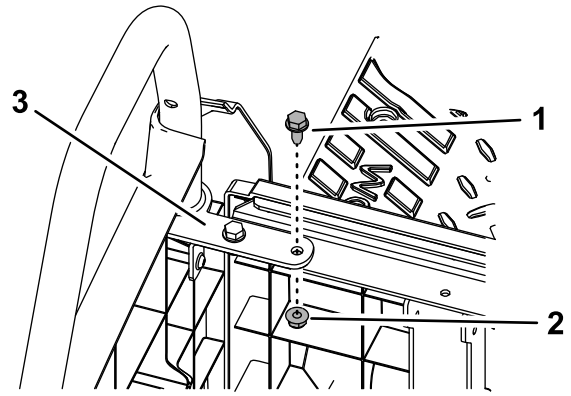

Figure 3
3. Remove the inner bolt (5/16 x 3/4 inch) and nut (5/16 inch) from the left and right rear hip-restraint brackets (Figure 3).